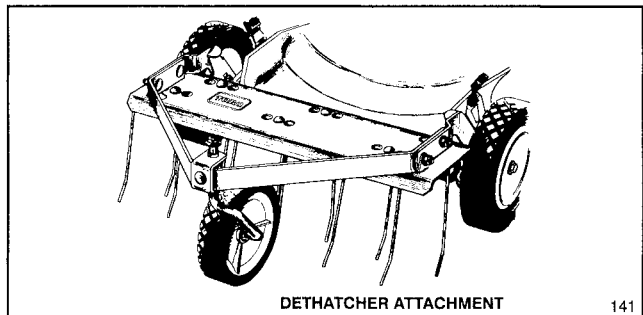

Figure 33
3. Dethatcher Kit, Model 59131 (self-propelled model only)—Installs in minutes. Front mounted for easy maneuverability. As spring tines scratch and vibrate through the grass, thatch is loosened and cut and recut by the mower (Fig. 33).